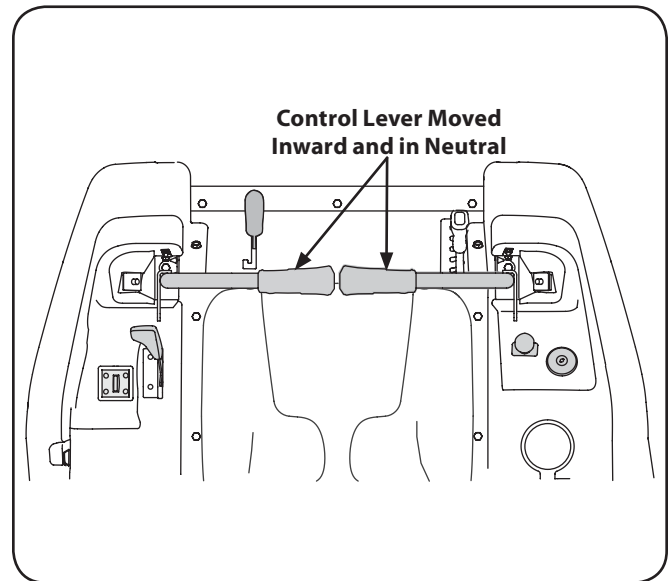

Figure 5-2
3. Move the RH and LH drive control levers inward in the neutral position. Refer to Figure 5-2.